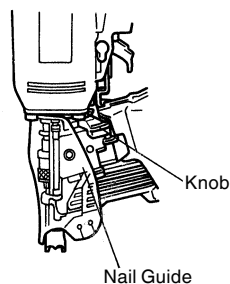

Fig. 21
- (1) Occasionally clean the knob sliding part and then apply the recommended oil. (See **Fig. 21**)